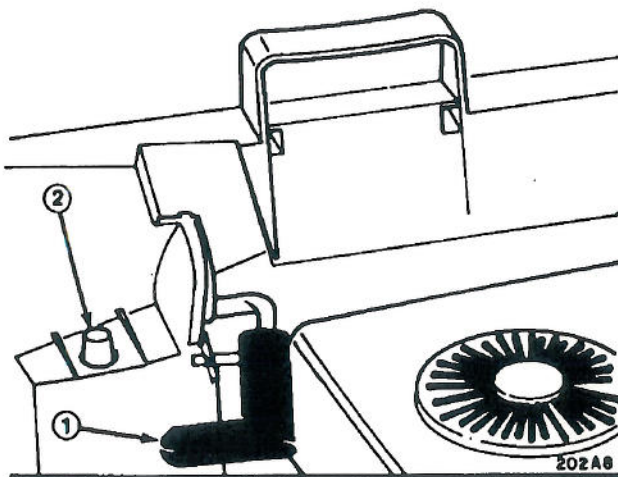

Figure 10
2. Assure chute door handle is fully forward and handle pin is released into housing latch (Fig. 10). The chute door is now closed.
3. Slide guide hole in bag door onto locating stud on mower housing (Fig. 10); then rest rear of bag frame onto lower handle crossbar.
2. Pull up chute handle, move door handle fully forward, and release handle pin into housing latch (Fig. 10). The chute door in mower housing is now closed, and mower is